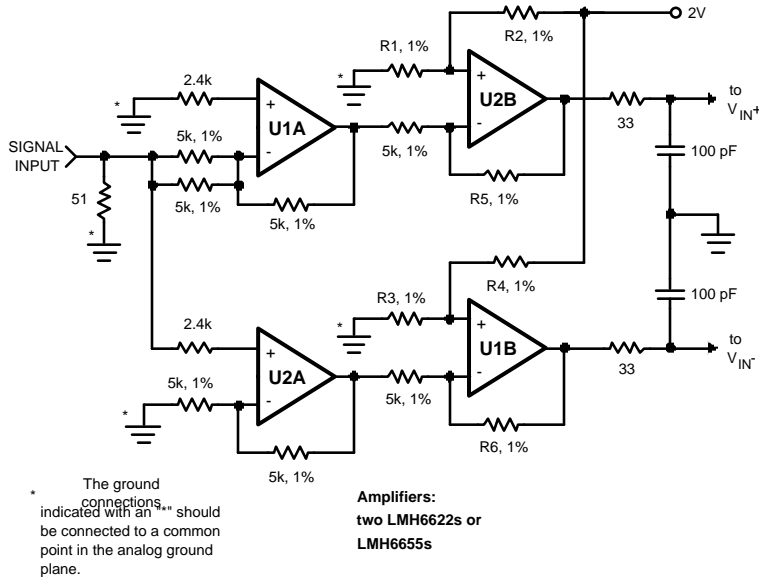

Figure 6. Differential Drive Circuit of Figure 5
A single-ended to differential conversion circuit is shown in Figure 6. Table 3 gives resistor values for that circuit to provide input signals in a range of  $1.0V \pm 0.5V$  at each of the differential input pins of the ADC14L020.
**Table 4. Resistor Values for Circuit of Figure 6**
If the amplifier exhibits overshoot, ringing, or any evidence of instability, even at a very low level, it will degrade performance. A small series resistor at each amplifier output and a capacitor at the analog inputs (as shown in Figure 6) will improve performance. The LMH6702 and the LMH6628 have been successfully used to drive the analog inputs of the ADC14L020.